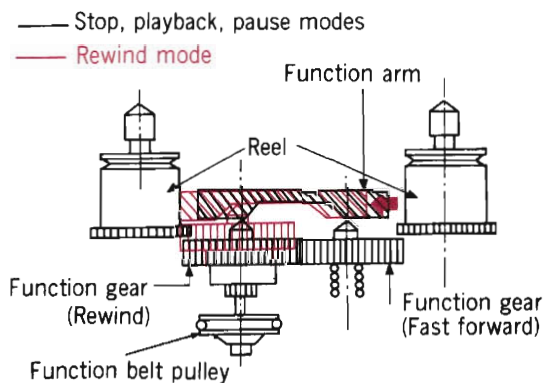
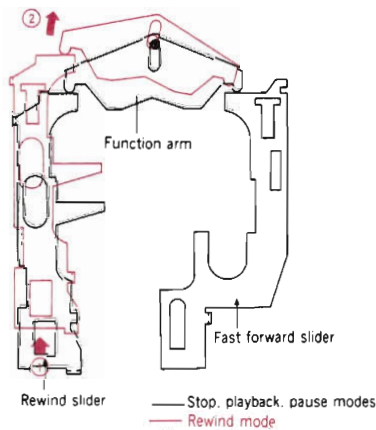

Fig. 11
Fig. 12
Under the stop condition, the function gear, reel and the function arm are under the mode shown in black in Fig. 11 ; when the rewind button is depressed, the rewind slider slides in the direction of arrow ① as shown in Fig. 12, and the function arm rotates in the direction of arrow ② with one end of the fast forward slider as the fulcrum. When the function arm is inclined, the surface where the function arm and the tip of the shaft of the function gear (Rewind) contact becomes convex as shown in color in Fig. 11, and the function gear (Rewind) rises and engages with the supply reel, and it is then in the rewind mode.